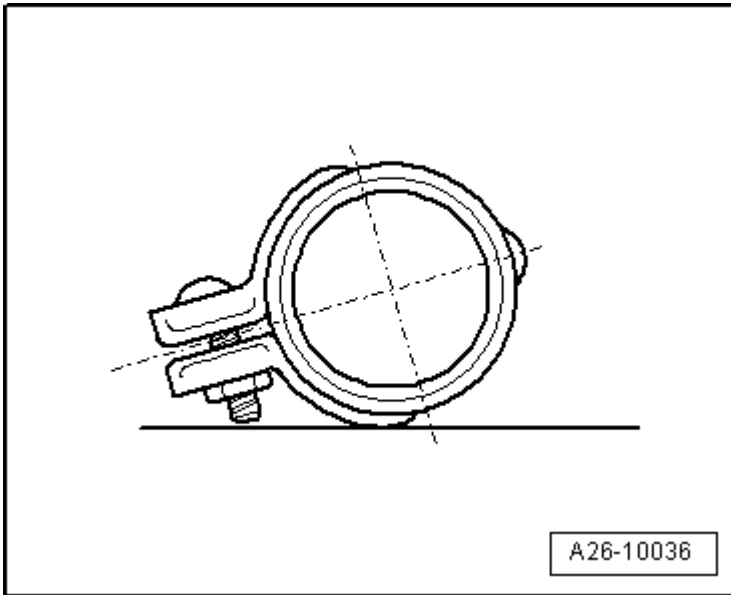

Fig. 8: Installed Position Of Rear Double Clamps
- Installed position **Fig. 8**